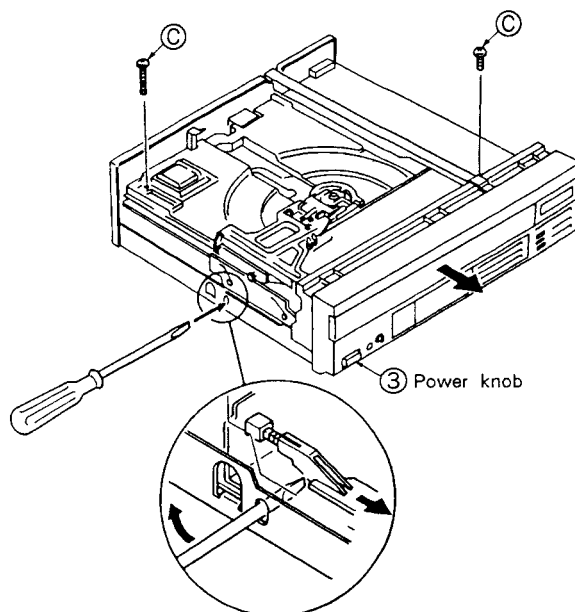

Fig. 7-2
- ① Remove six screws **A** to remove the bonnet.
- ② To remove the front panel assembly, unscrew three screws **B** and lift the catches as shown in the figure and lower the front panel toward the front.
- ③ To remove the power knob, insert the flat-blade screwdriver into the slit on the side of the chassis as shown in Fig. 7-2, and push the protrusion of the knob. You can now remove the power knob easily. (Check that the power switch is in the OFF position before removal.)
### 7.2 REMOVING THE TRAY (Fig. 7-2, 3)
- ① Remove two stopper screws **C** shown in Fig. 7-2. When the power can be turned ON, press the OPEN button then pull the tray out from the player.